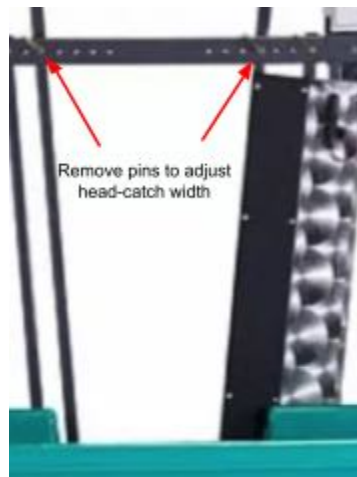

Figure 7) Head-Catch Adjustment
1. Remove the pins on both the top and the bottom of the bars. (Top pins are shown in Figure 7.)